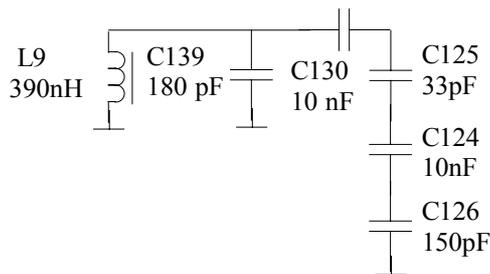

Figure 7.14 All capacitors in parallel with L9
17. The frequency selective circuit has an inductor L9 and a parallel capacitor C139. However other capacitors in the feed back circuit and the output circuit also affect the resonance. The equivalent parallel capacitance can be calculated from Figure 7.14. C130 is a large d.c blocking capacitor used in varactor circuit.